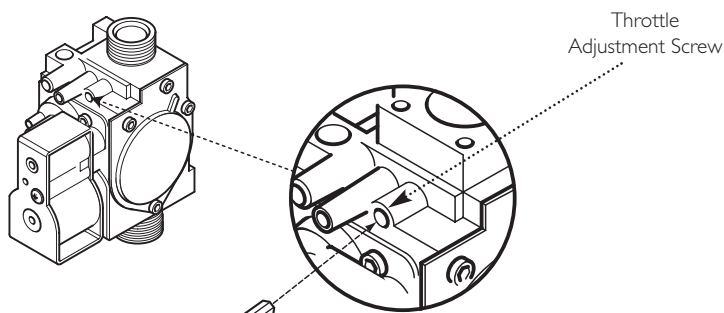

Fig. 99a
**NOTE:** To assist the boiler to light prior to final setting, use a suitable hexagon key to wind out the Throttle Adjustment Screw until it is flush with the valve body, then turn the screw 4 full turns clockwise (Fig. 99a). If the boiler will not light, or the correct CO2 cannot be achieved contact the 'heateam' technical helpline.